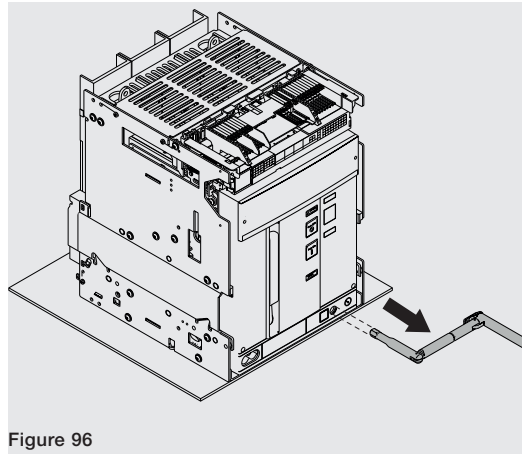

Figure 96
12. Extract the crank. See Figure 96.